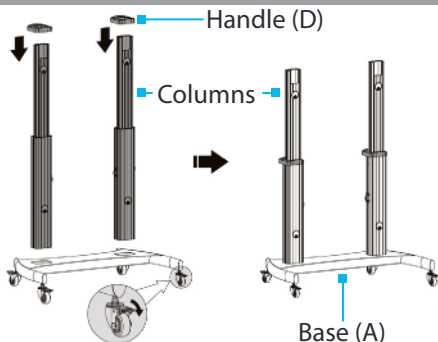

Figure 3
- Engage the **Brake** on each one of the four **Casters (B)** before proceeding to step 7. (Figure 3)
- Slide the **Left (E)** and **Right Columns (F)** into their respective receptacles, located in the **Base (A)**.
- Slide one **Handle (D)** over the **Left Column (E)**. Ensure the grip loop portion of the **Handle (D)** is facing the back of the **Base (A)**.
**Note:** The **Left Column (E)** has not yet been attached to the **Base (A)** with a **Screw**. Exercise caution when sliding the **Plastic Handles (D)** over the **Columns**.
- Repeat step 8 for the **Right Column (F)**.